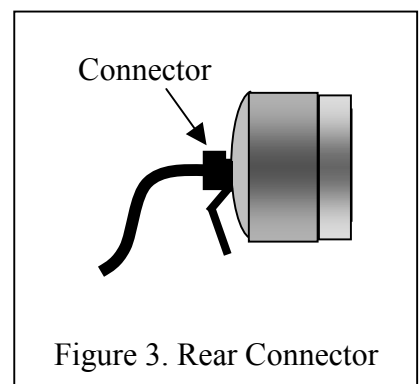

Figure 3. Rear Connector
- iv. Completely unscrew the connector on the back of the light. See Figure 3.